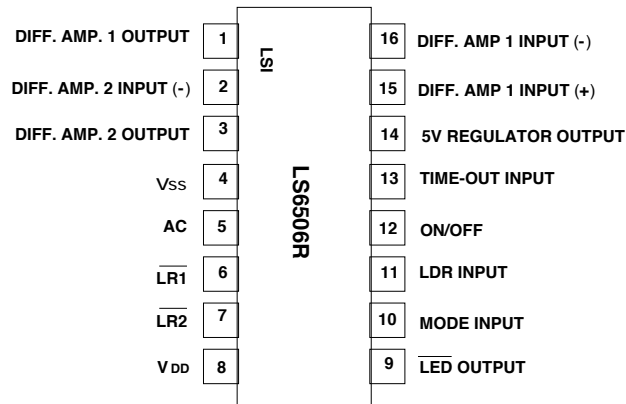

FIGURE 1A
- **LS6506R** (DIP), **LS6506R-S** (SOIC); **LS6507R** (DIP), **LS6507R-S** (SOIC) - See Figures 1A & 1B